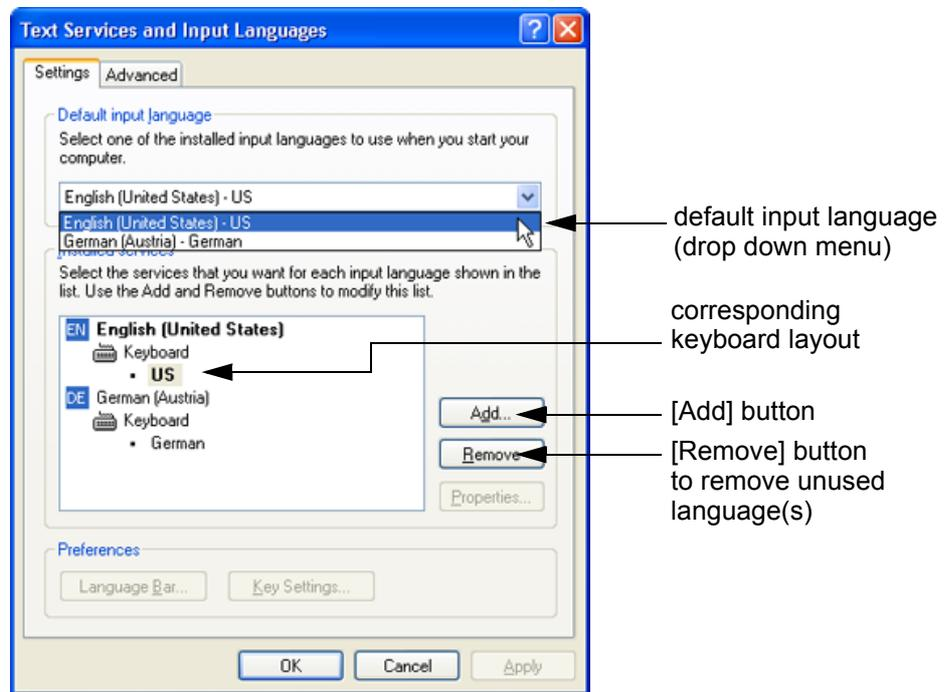

Figure 6-13 Default input language
- 7.) If not already done, select the default input language from the drop down menu (see: Figure 6-13). The corresponding keyboard layout is changed automatically.